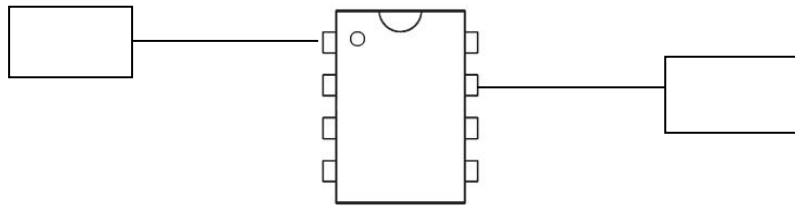

Figure 4
d. Number the **TWO** leads of the NE555 shown in Figure 4.